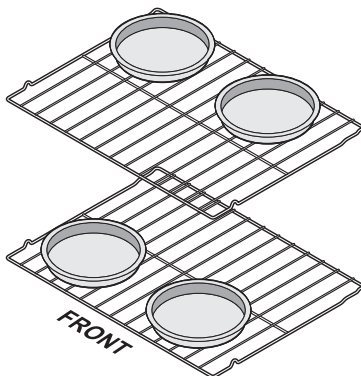

Figure 20: Pan positions two rack baking
- When baking cakes using two oven racks, position cookware as shown in Figure 20. Allow at least 2 inches (5 cm) of space between cookware for proper air circulation.